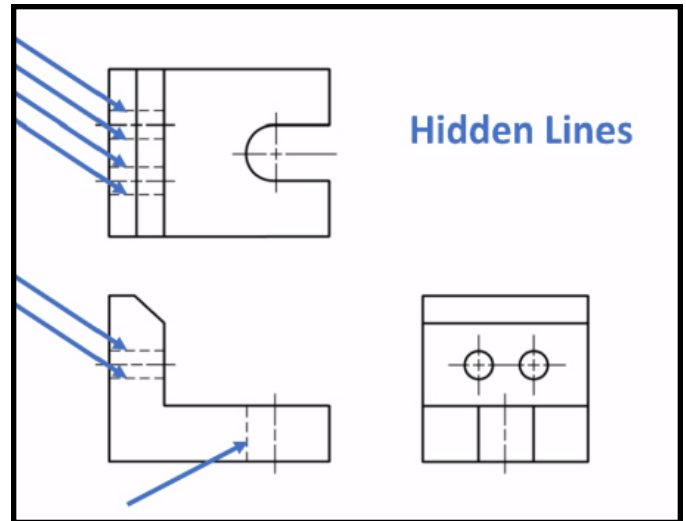

Figure 1.20 - Hidden Lines
- Hidden lines (figure 1.20) show the feature hidden by visible surfaces.